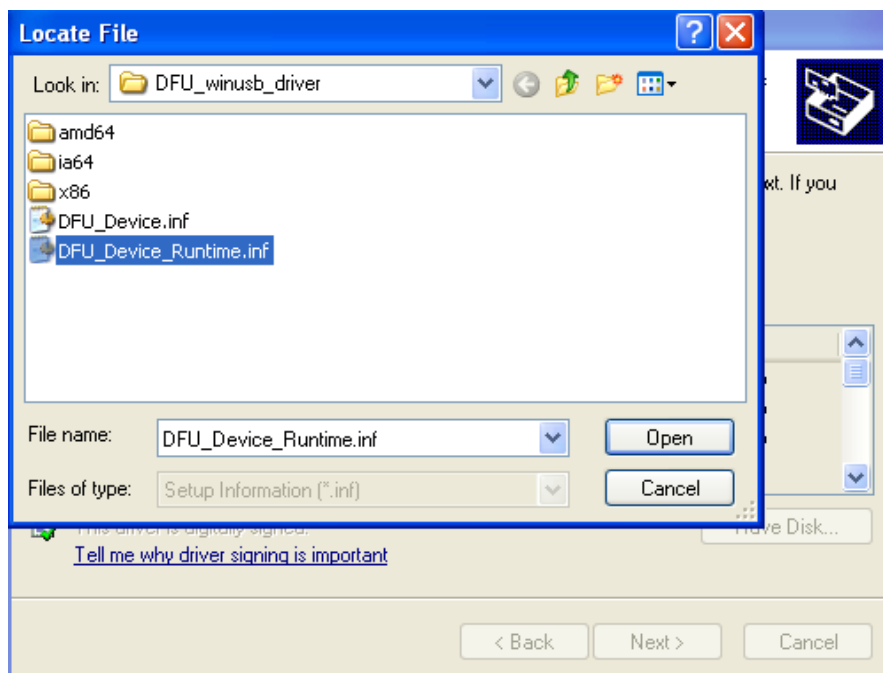

Figure H-7. Location to the driver
4. Navigate to the INF file location to choose an .INF file and click **Open** (Figure H-7). After that click **Next** when the next window appears to install driver.